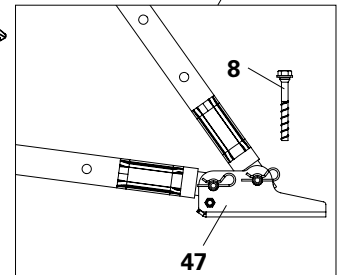

Fig. A6.06a
1. Mount Base Plate (47) on a flat and sufficiently load-bearing surface area, e.g. using PERI Anchor Bolt 14/20x130 (8). (Fig. A6.06a)